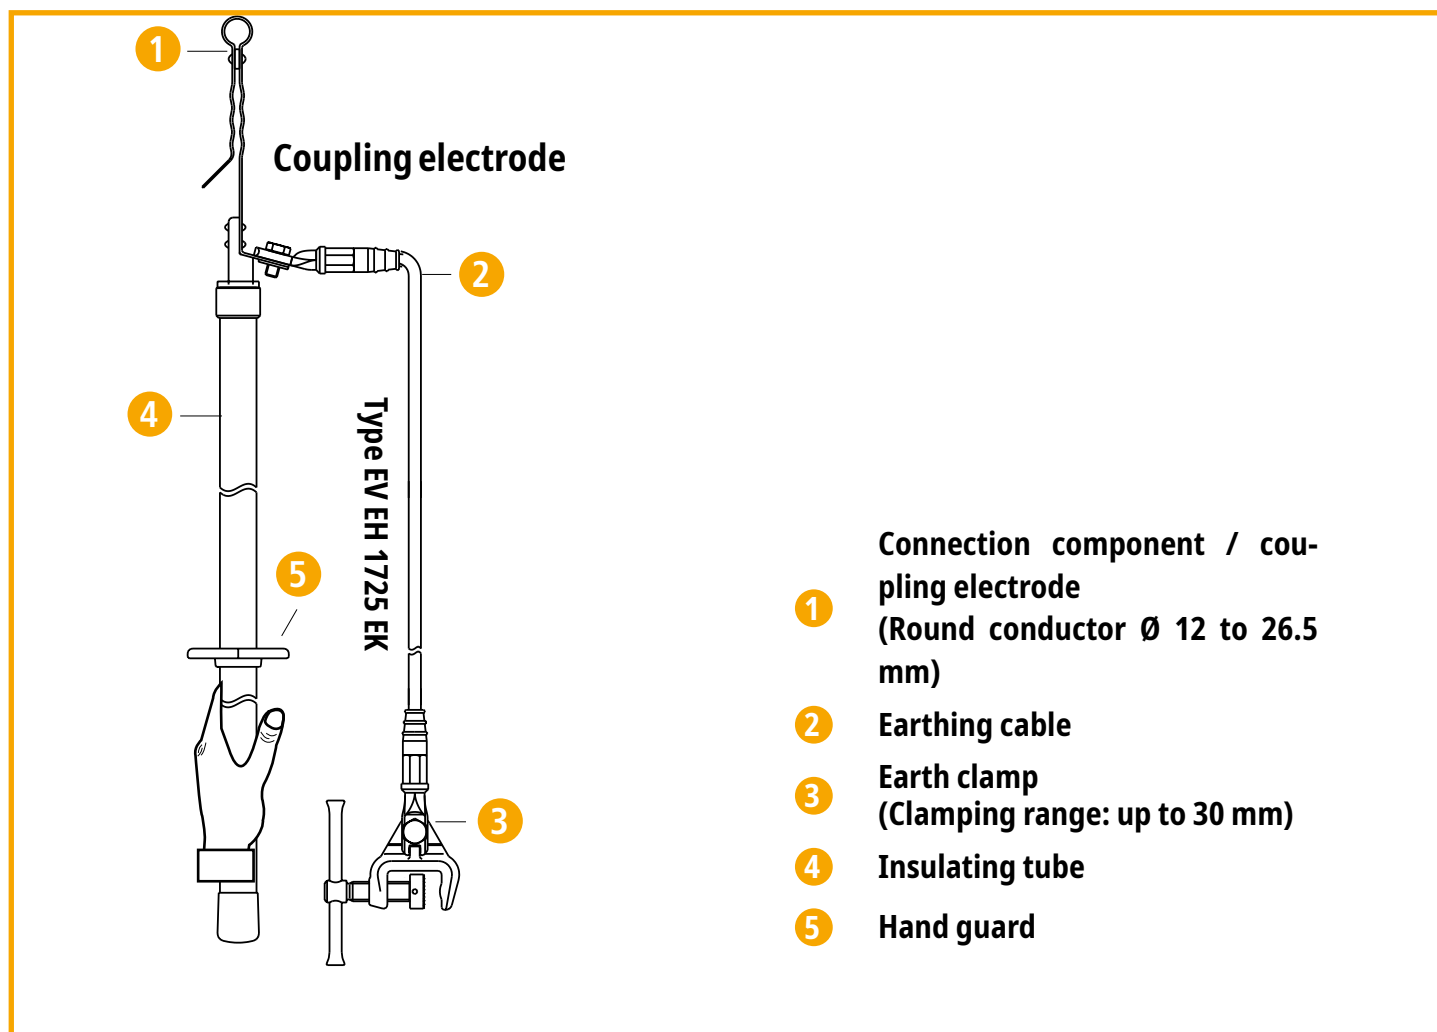
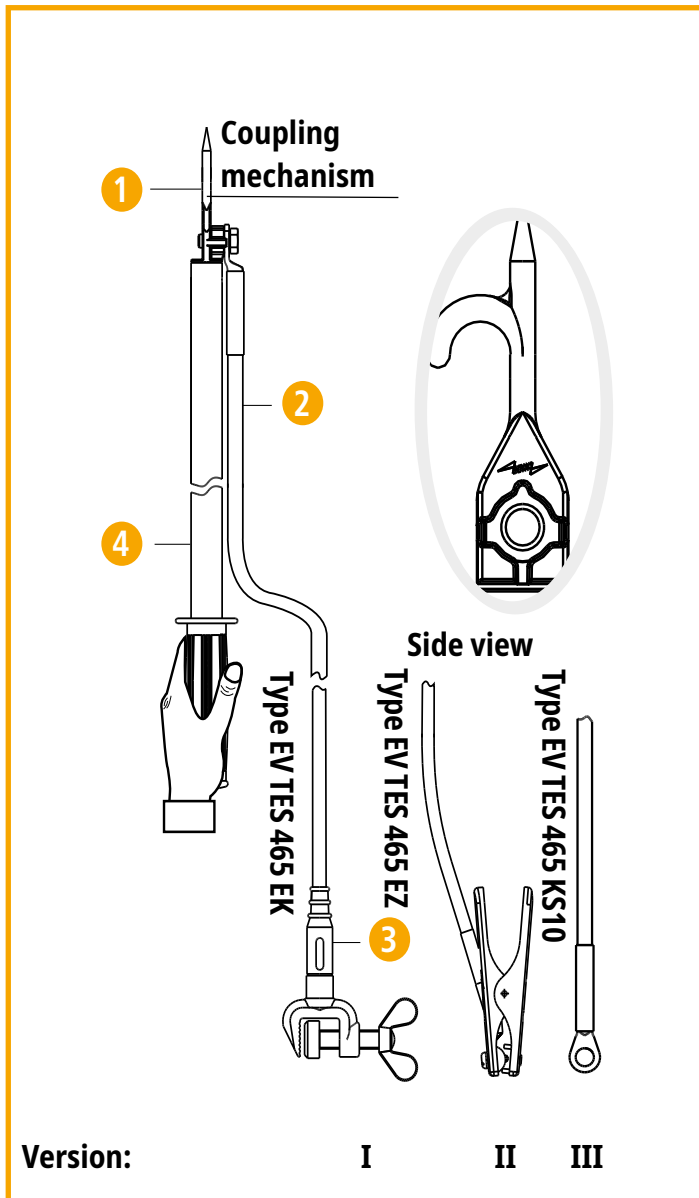

Figure 1
Figure 2
The earthing device for electrostatic precipitator systems (see Figure 1, page 3) and the discharge devices for dissipating static charges (see figures 2 and 3, page 4) are not earthing and short-circuiting devices pursuant to IEC/EN 61230, (DIN VDE 0683 Part 100). They must not be used as earth for working in power grids. The devices are used exclusively for discharging residual voltages and static charges against earth potential.
- When attaching or approaching the devices to the part of the installation, the devices must only be gripped in the handle area (see figure 1 to 3, page 3 and 4).
With the connecting part (coupling electrode), the earthing device can be attached to round conductors of \varnothing 12 to 26.5 mm (see Fig. 1, page 3).
To discharge static charges, touch the part to be discharged with the contact electrode. The type EV TES 465 ... can be attached to the part to be discharged with its coupling mechanism (see Figure 2, page 4).